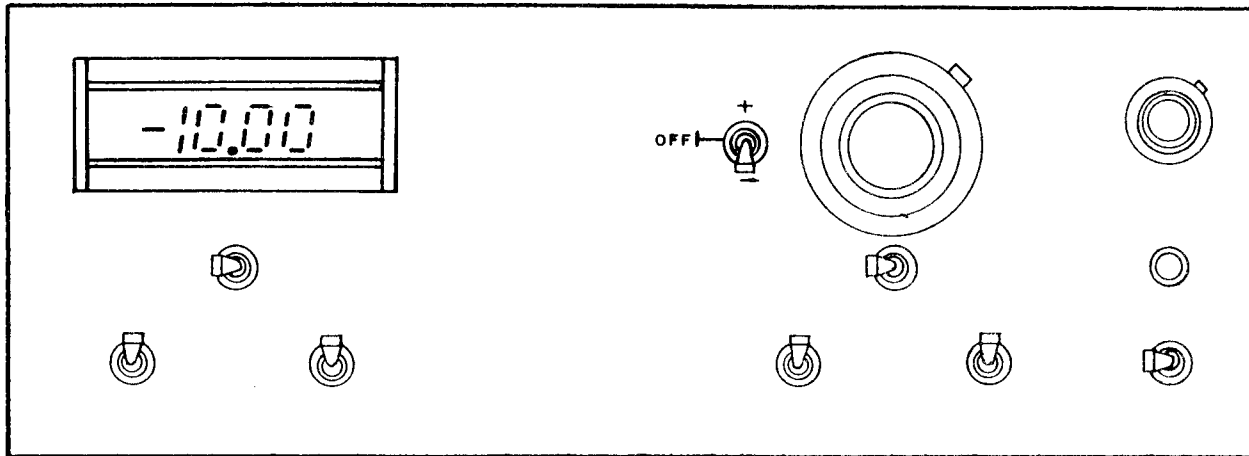

Figure 10. Polarity Switch to “-” Position
- j. Flip the polarity switch to the “-” position (see Figure 10). The DPM should read -10.0.